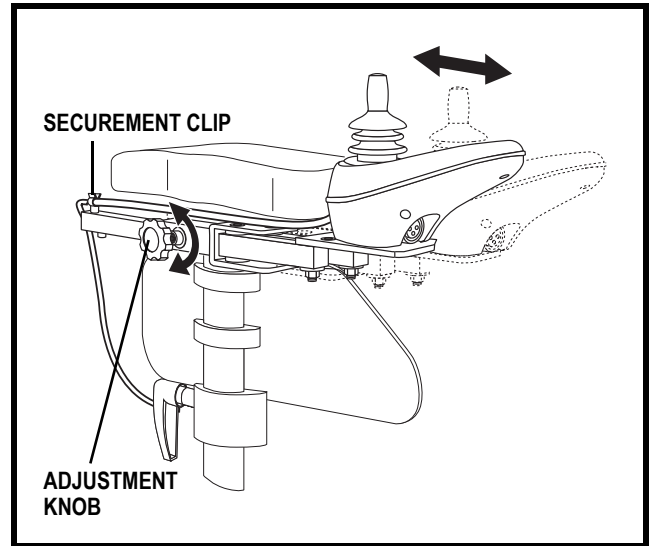

Figure 22. Controller Position
1. Loosen the adjustment knob on the armrest. See **figure 22**.